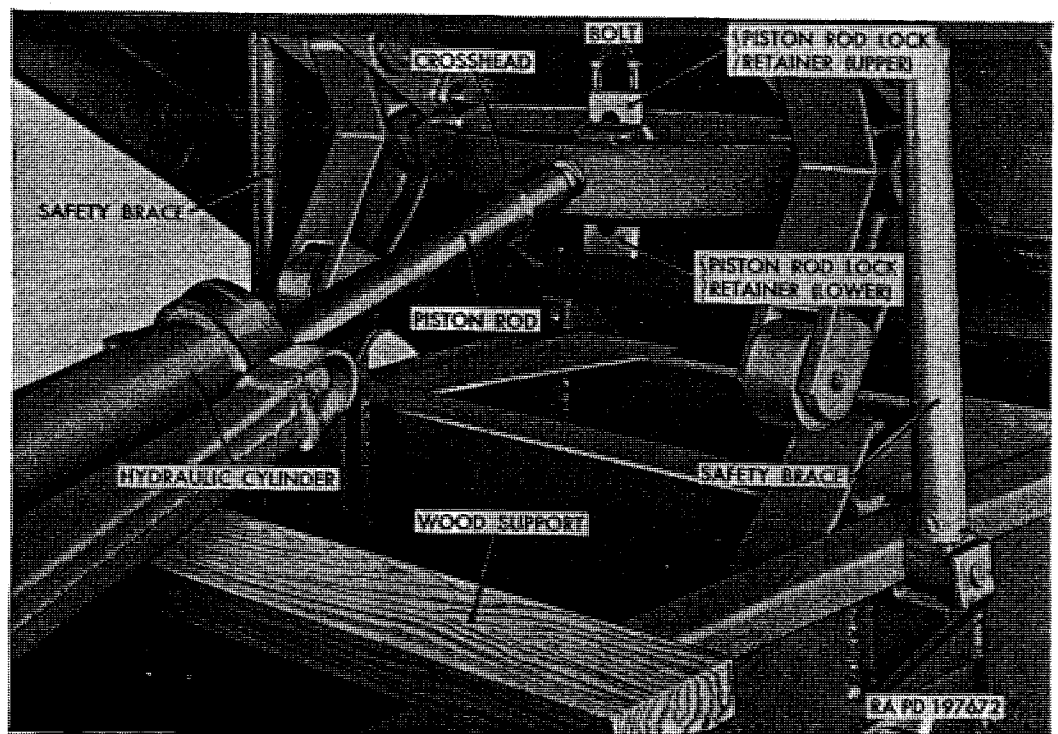
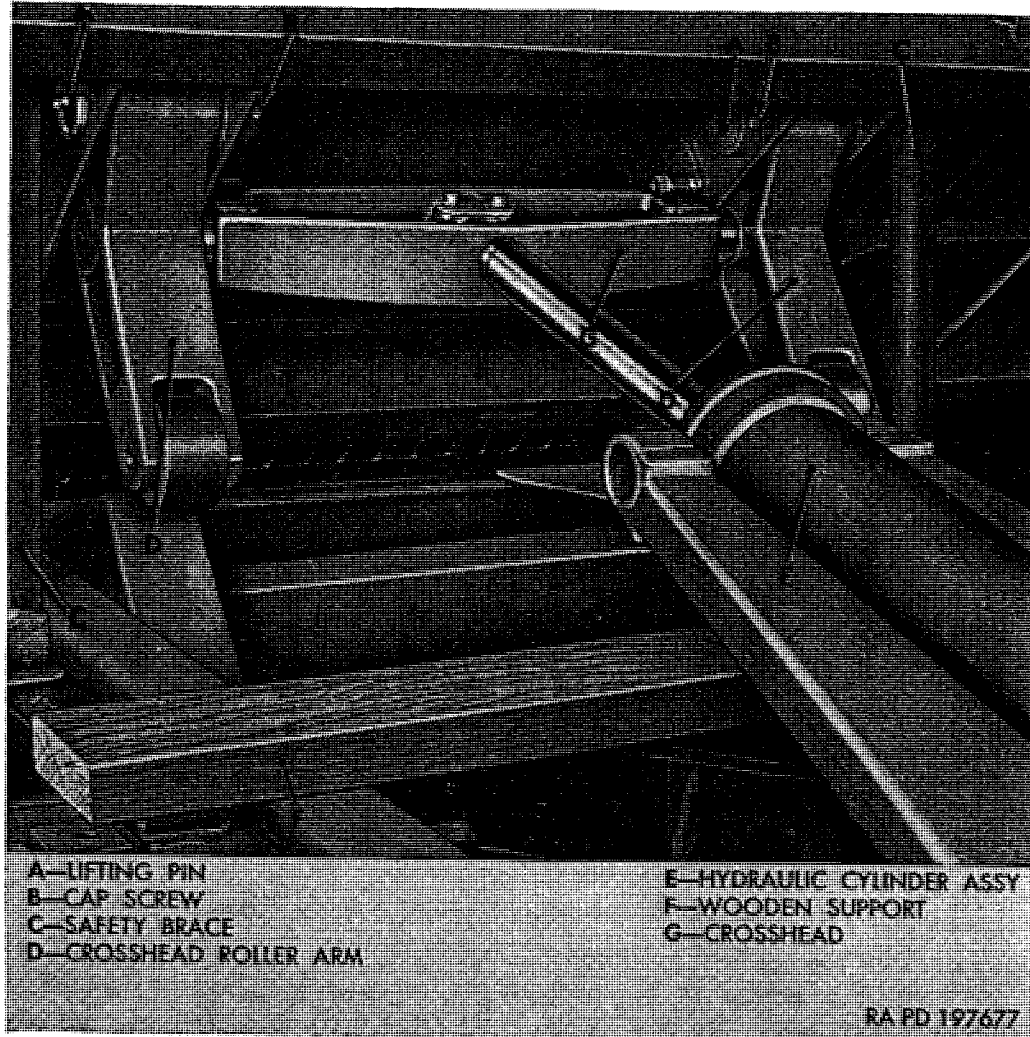

Figure 354. Piston rod to crosshead lock retainers.
Figure 356. Hoist crosshead and roller arms installed.
- (1) *Coordination with ordnance maintenance unit.* Refer to paragraph 2 for information on coordination with an ordnance maintenance unit.
- (2) *Raise body.* Raise body and position safety braces as directed in paragraph 51d.
- (3) *Install wood support.* Position a wood support approximately 2 x 6 x 48 across top of subframe and under hydraulic cylinder (fig. 354) to support cylinder when piston rod is disconnected from crosshead.
- (4) *Disconnect piston rod.* Remove two bolts from piston rod lock retainer; then remove upper and lower retainers from crosshead as shown in figure 354.
- (4) *Connect piston rod.* Pull piston rod out of cylinder until it can be inserted into crosshead as shown in figure 354. Install lower and upper piston rod lock retainers in crosshead and around groove in piston rod. Install two $\frac{3}{8}$ -24 x $2\frac{1}{2}$ bolts securing retainers in crosshead.
- (5) *Fill fluid reservoir.* Fill reservoir with fluid specified on lubrication chart (par. 69) as directed in paragraph 325*d*.
- (6) *Operate hoist.* Operate hoist as directed in paragraph 51*b* until system is free of air and fluid level is at center mark on dipstick gage (par. 325).
- (1) *Raise body.* Raise body and position safety braces as directed in paragraph 51*d*.
- (2) *Install wood support.* Refer to paragraph 328c(3).
- (3) *Remove lifting pins.* At each side, remove nut, lockwasher, and cap screw (B, fig. 356) securing lifting pins (A, fig. 356) to body. Use drift pin and hammer to drive lifting pins from body and roller arms.
- (2) *Operate hoist.* Operate hoist as directed in paragraph 51*b* until crosshead roller arms are in their approximately correct position at body.
- (3) *Install lifting pins.* Install lifting pins (A, fig. 356) through body braces and crosshead roller arms (D, fig. 356). Install one $\frac{5}{16}$ -24 x $3\frac{1}{4}$ cap screw (B, fig. 356), retaining pin to body and secure with $\frac{5}{16}$ -inch lockwasher and $\frac{5}{16}$ -24 nut. Install lubrication fitting in each lifting pin. Lubricate as instructed on lubrication chart (par. 69).
- (4) *Lower body.* Operate hoist as instructed in paragraph 51*b* until safety braces can be lowered and wooden support (fig. 356) can be removed. Lower body to subframe.
a. General. Hoist crosshead (G, fig. 356) is used between two crosshead roller arms and is connected to hoist cylinder piston rod (fig. 354).
- (1) Remove crosshead roller arms (par. 329*b*).
- (2) Remove two bolts from piston rod lock retainers; then remove upper and lower retainers from crosshead, and remove crosshead from piston rod (fig. 354).
- (1) Install crosshead to piston rod as shown in figure 354 (par. 328d(4)).
- (2) Install right and left crosshead roller arms on crosshead and secure to body (par. 329c).